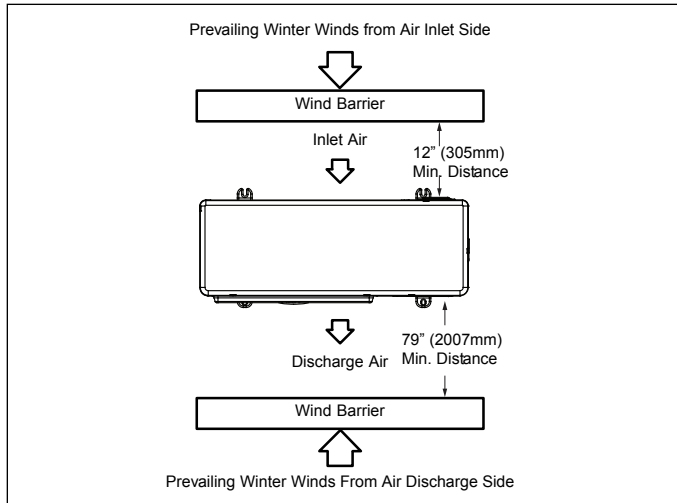

Figure 17. Wind Barrier
- When prevailing winds are from the air inlet side, then position the wind barrier a minimum of 12 inches (305 mm) from the unit as illustrated in “Figure 17. Wind Barrier”.